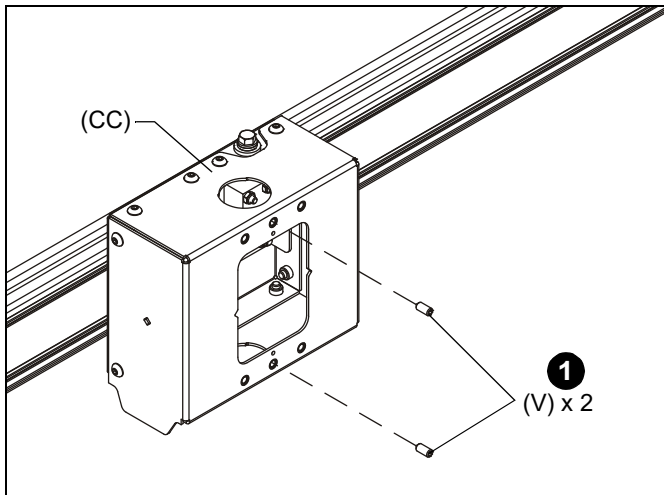

Figure 1
1. Insert two 5/16 x 3/4" set screws (V) into back of ceiling mount (CC). (See Figure 1)